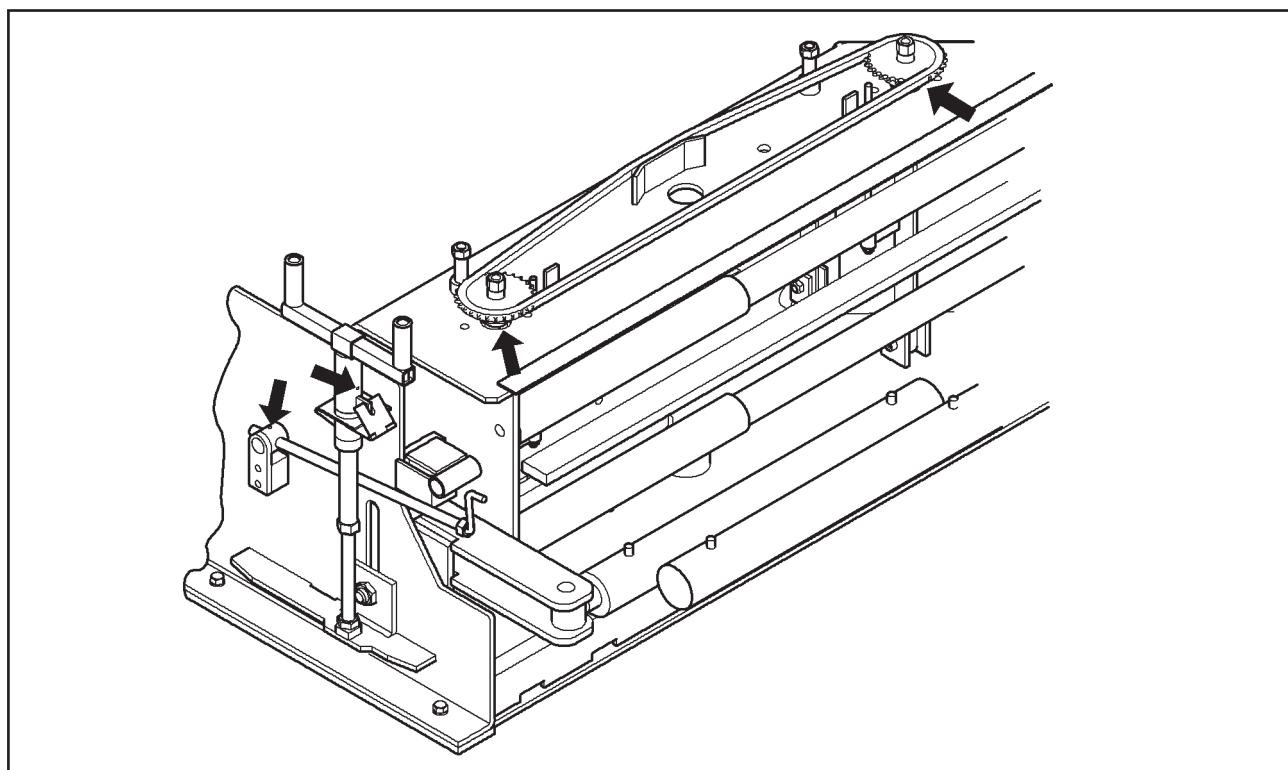

FIGURE 4-3. SCREED ASSOCIATED LUBRICATION POINT LOCATIONS
1. For both sides of the screed, lubricate all grease fittings on the flight screw, the fitting on the depth screw, and the fittings on the flange bearings located on top of the extension screed (see Figure 4-3). Grease nuts on extension screws.